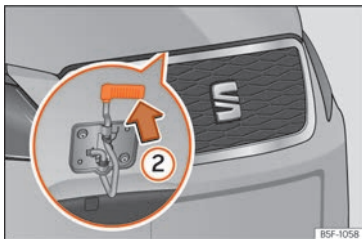

Fig. 13 Cam under the bonnet
- To lift the bonnet: press the release catch under the bonnet upwards »» Fig. 13 ②. The arrester hook under the bonnet is released.